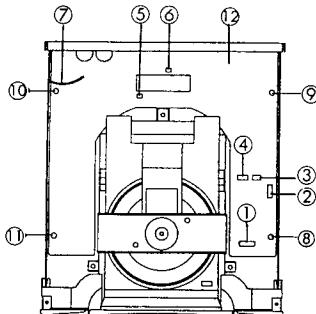

Fig. 3
1. Remove the rear panel (Refer to step ②)
2. Remove connectors ① to ⑥ in Fig. 3, and then unsolder the ground wire ⑦ which is connected the side frame (L)
3. Remove screws ⑧ to ⑪ in Fig. 3, and then remove main pcb ⑫ by pulling it to backward
④ Front Panel Assembly Removal